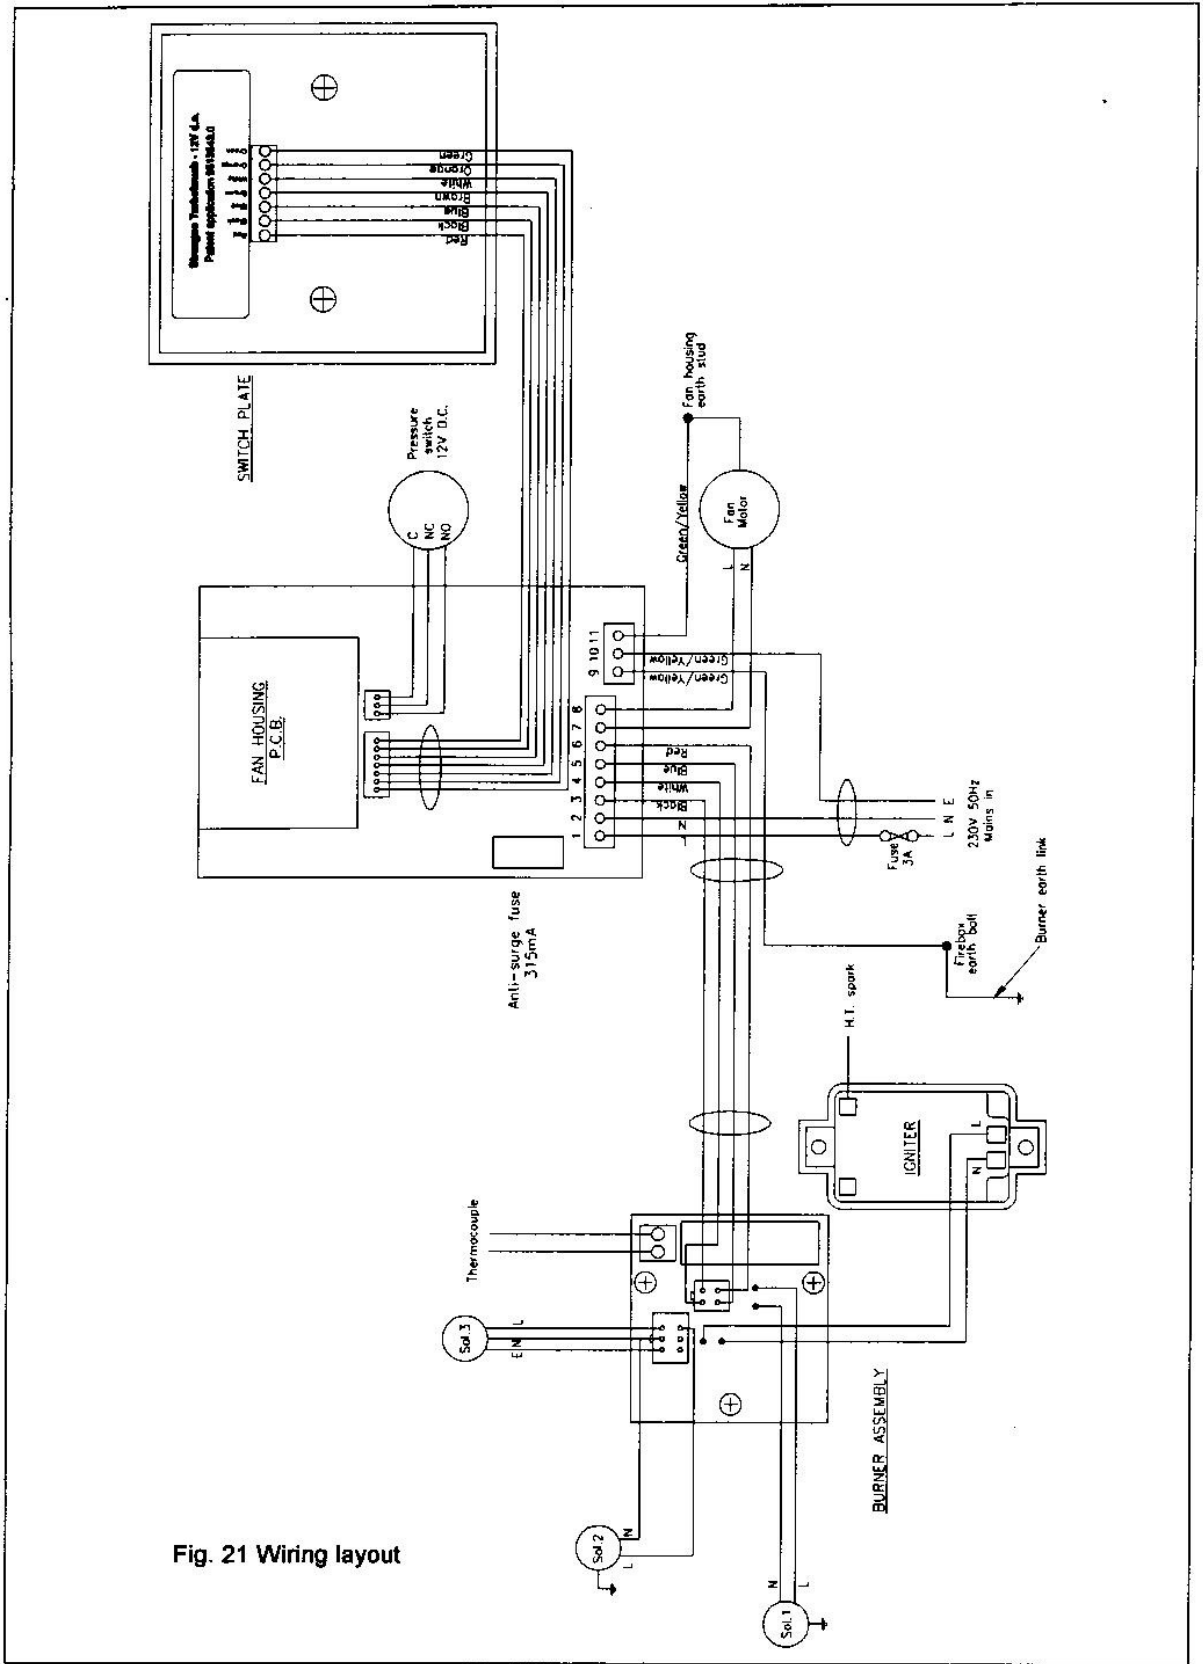

Fig. 21 Wiring layout
9. Reassemble, following steps 2 to 7 in reverse order. See Fig. 21 for wiring layout in the control box.